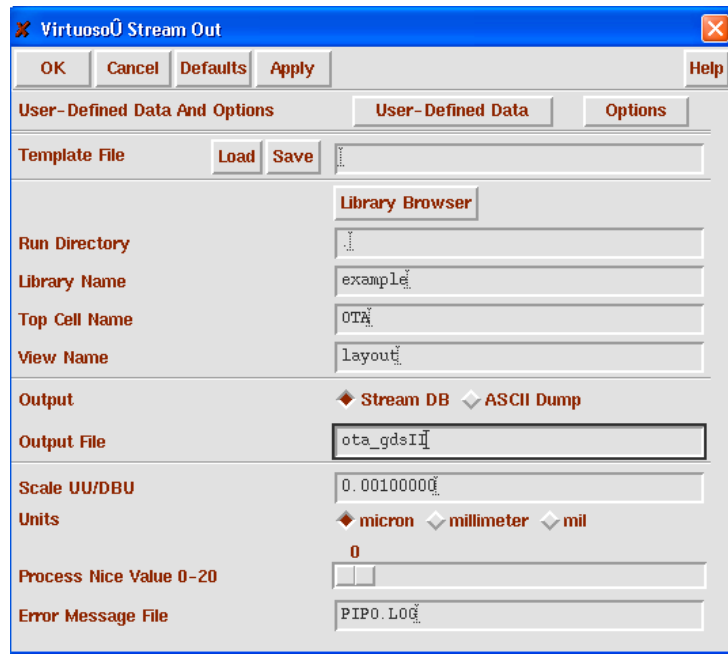

Figure 26: GDSII Stream Out window
- Open Stream Out form from CIW window. **File->Export->Stream** (Fig. 26)